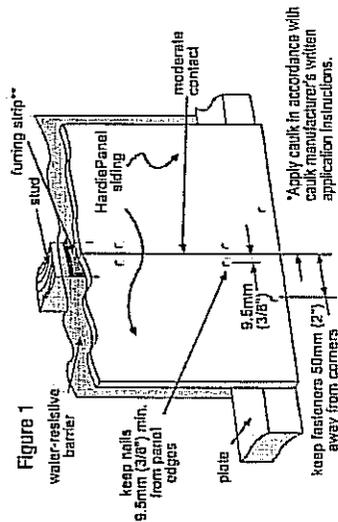
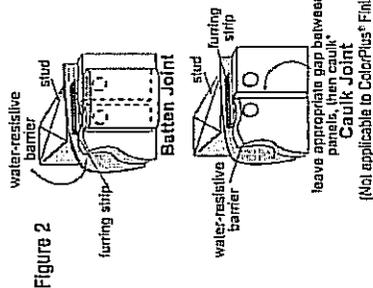

Figure 1
Figure 2
- Vertical Joints - Install panels in moderate contact (fig. 1), alternatively joints may also be covered with battens or caulked (Not applicable to ColorPlus® Finish) (fig. 2).